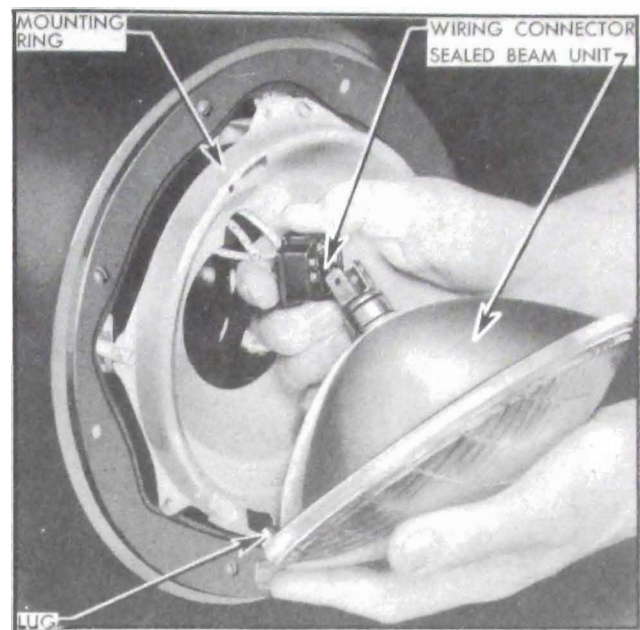

Figure 10-71—Installation of Headlamp Sealed Beam Unit
4. Install new sealed beam unit by reversing removal procedure. The lens is marked "TOP" and the reflector has three lugs which fit into notches in the headlamp mounting ring. See figure 10-71. **CAUTION:** Make sure that sealed beam unit installed on Series 50-70 has "12V" molded in center of lens to indicate 12-volt unit.